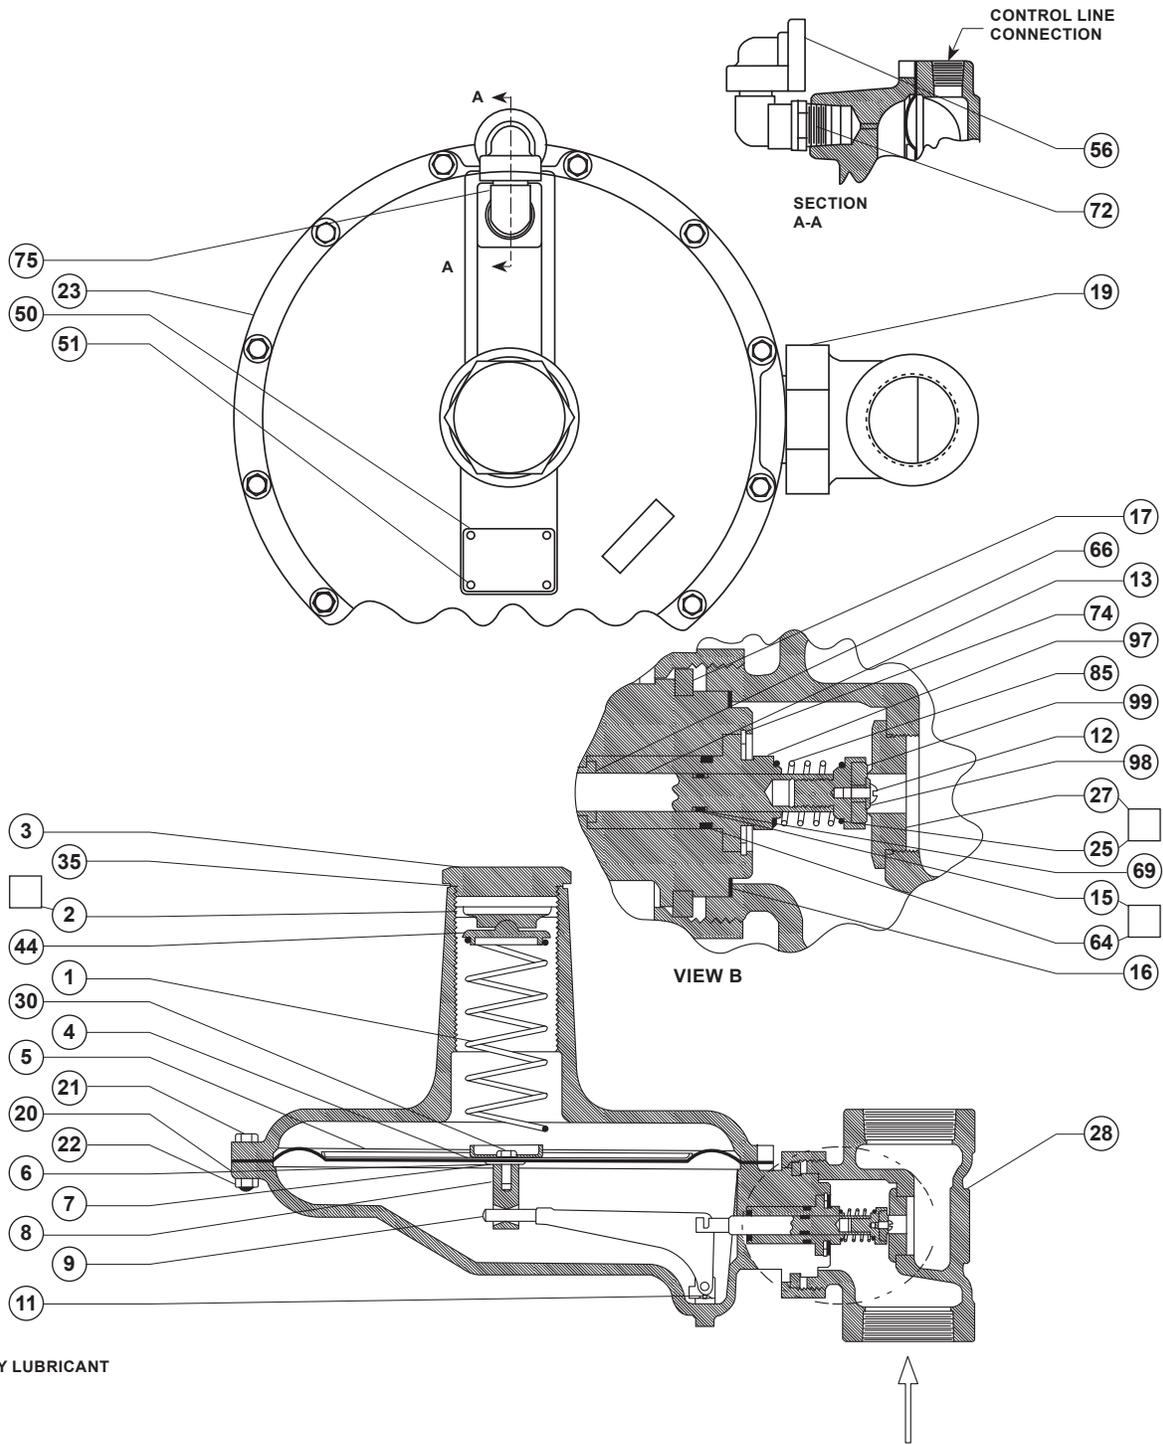

Figure 5. Type Y693 Regulator, Steel or Stainless Steel Lower Casing Version
1. Remove the downstream external control line. Remove the closing cap (key 3, if required), and turn the adjusting screw (key 2) counterclockwise to remove the adjusting screw (key 2). Remove the upper spring seat (key 4 or 44) and the control spring (key 1).
2. Remove the hex nuts (key 22), cap screws (key 21) and spring case (key 23).
3. Remove the diaphragm assembly (key 5) plus attached parts by tilting them so that the pusher post (key 8) slips off the lever assembly (key 9). To separate the diaphragm (key 5) from the attached parts, unscrew the spring holder cap screw (key 30) from the pusher post (key 8).
5. Inspect the lower spring seat (key 4), lower diaphragm head (key 6) and the lower diaphragm head gasket (key 7) and replace if necessary.
6. To replace the lever assembly (key 9), remove the machine screws (key 11). To replace the valve stem (key 13), unscrew the union nut (key 19) from the body (key 28) and remove the lower casing assembly (key 20) and split ring (key 17). Pull the valve stem (key 13) out of the lower casing assembly (key 20).
7. To inspect the body bushing (key 97), remove the bushing snap ring (key 74) and carefully remove the body bushing from the lower casing assembly (key 20).
8. During the assembly procedure, use lubricants indicated parts (Figure 5) and replace parts as required.
9. Install the body bushing O-ring (key 64) on the body bushing (key 97). To install the wiper (key 66), place a small swab of lubricant into the body bushing to hold the wiper in place while the bushing is installed into the lower casing assembly (key 20). Ensure that the wiper is properly oriented with the wiper lip pointing inward toward the diaphragm. Install the bushing snap ring (key 74) to hold the body bushing in place.
10. Apply a moderate coating of lubricant to the valve stem (key 13). Install the stem O-ring (key 15) and the two back-up rings (key 69, one on each side of the O-ring) onto the valve stem (key 13).
11. Install the valve stem (key 13) from the body side of the bushing, this is to ensure that the O-ring groove does not damage the wiper.
12. Install the lever assembly (key 9) into the stem (key 13) and secure the lever assembly (key 9) with the machine screws (key 11). Carefully tighten the machine screws to a torque of 2 to 3 ft-lbs / 3 to 4 N•m.
13. Always use a new lower diaphragm plate gasket (key 31). Install the parts on the pusher post in the order listed below:
- Lower diaphragm plate gasket (key 7)
- Lower diaphragm plate (key 6)
- Diaphragm and plate assembly (key 5) pattern side up
- Lower spring seat (key 4)
14. Lubricate the diaphragm cap screw threads (key 30) and insert the cap screw to secure the diaphragm parts to the pusher post (key 8). Carefully tighten to a torque of 7 to 9 ft-lbs / 9 to 12 N•m.